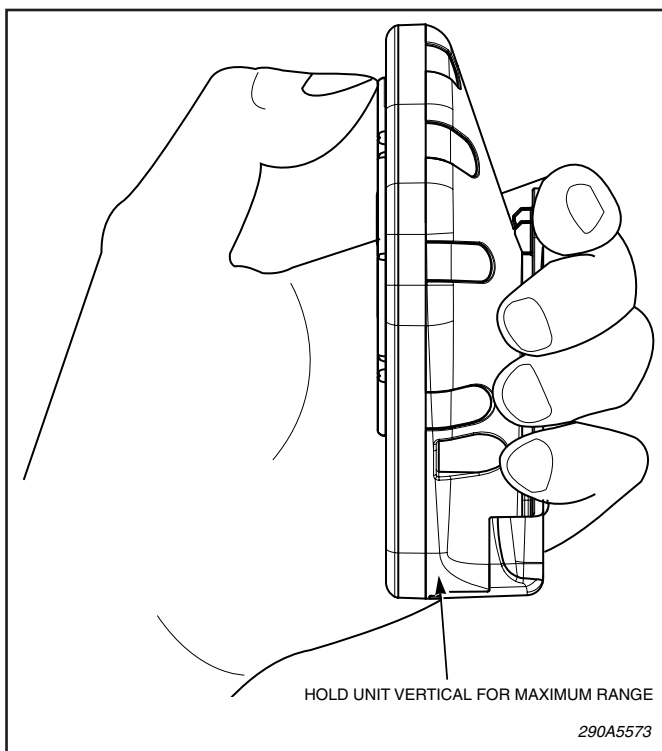

Figure 6.
- D. At close range, the transmitter may be held in any orientation comfortable. At extreme distances, the transmitter should be held upright, see figure 6. This will orient the internal antenna for the best signal.